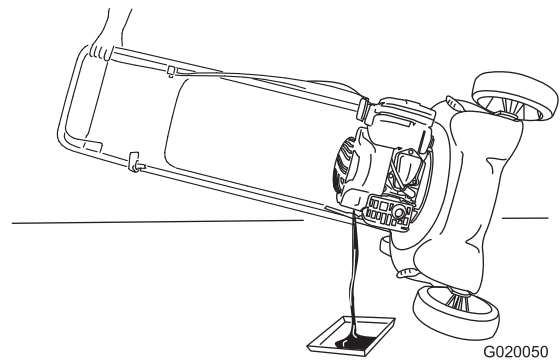

Figure 18
2. Tip the machine onto its side, with the dipstick down, then remove the dipstick to drain the used oil out through the oil-fill tube (Figure 18).